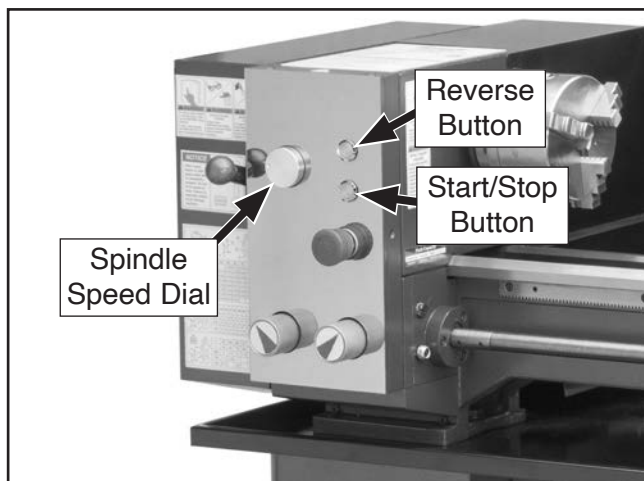
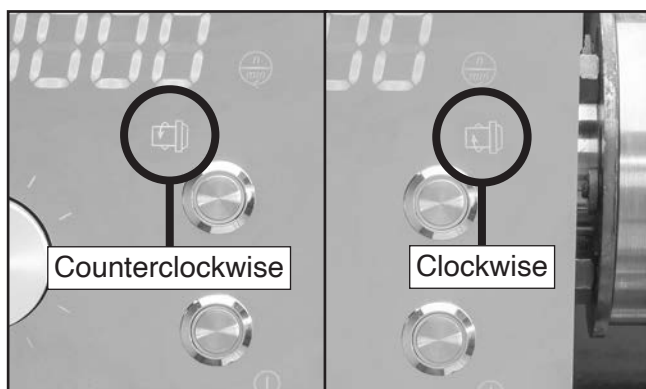

Figure 27. Control panel controls.
Figure 30. Spindle rotation icons.
4. Turn spindle speed dial (see **Figure 27**) all the way counterclockwise. This will prevent spindle from starting at a high speed.
8. Press Start/Stop button (see **Figure 27**) to start spindle rotation. Start/Stop button will illuminate. Verify motor starts up and runs smoothly without any unusual problems or noises.
14. Press Reverse button (see **Figure 27** on **Page 29**) to reverse spindle rotation. Reverse button will illuminate and spindle rotation icon (see **Figure 30**) will change to display clockwise rotation. Verify motor changes directions and starts up and runs smoothly without any unusual problems or noises.